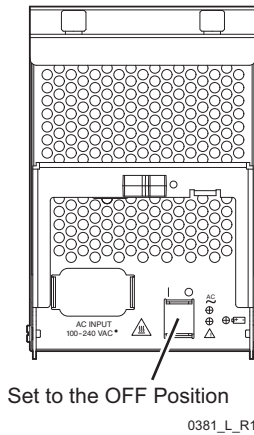

Figure 18-1. Set the Power Supply to the OFF Position
- 6 At the rear of the controller node chassis, identify the power supply requiring replacement and set it to the OFF position (Figure 18-1).